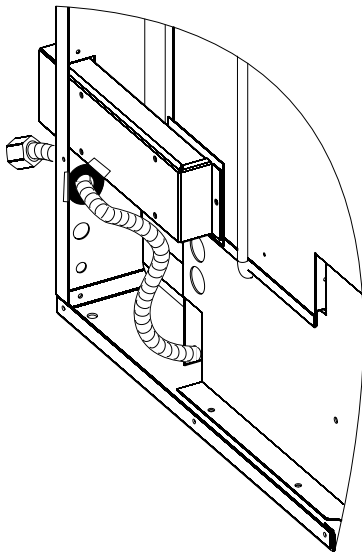

Figure 53 - Fireplace Mantis
1. Pull the factory installed flexible gas line through the hole in the back panel. See Figures 53 and 54.